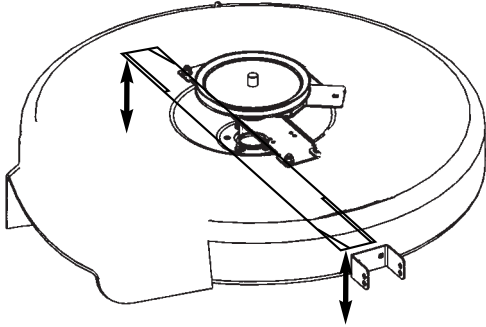

Figure 53. Orient Blades Front-to-Back
1. Turn the blade front-to-back as shown in Figure 53. Measure the distance from the ground to front tip of blade, and from ground to rear tip of blade (Figures 53). Front tip should be 1/8"-1/4" (3-6 mm) higher than rear tip. If not, proceed to step 2.